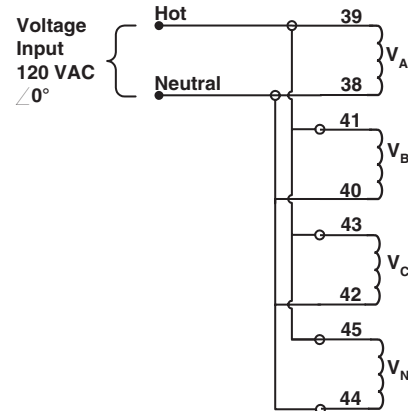

Figure 6-7 Voltage Calibration Configuration
3. Connect all voltage inputs in parallel ( $V_A = V_B = V_C = V_N$ ) and apply 120.00 ( $\pm 0.01$ ) VAC  $\angle 0^\circ$ . See Figure 6-7.